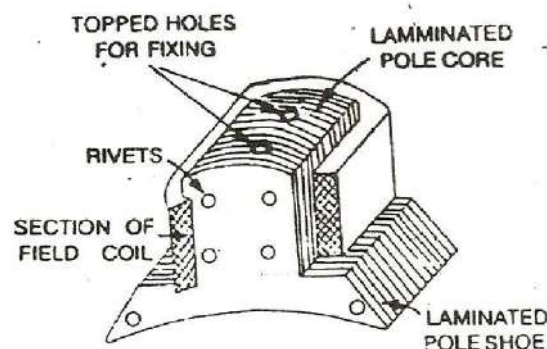

Figure.1.8. Construction of Pole core and Pole Shoe.
1.3.1.2. Pole Core and Pole Shoe. The Pole Core and Pole Shoes are fixed to the magnetic frame or yoke by bolts. Since the poles project inwards they are called salient poles. Each pole core has a curved surface. Usually, the pole core and shoes are made of thin cast steel or wrought iron laminations which are riveted together under hydraulic pressure. The poles are laminated to reduce the Eddy Current loss. The pole core and pole shoe are shown in the figure 1.8.